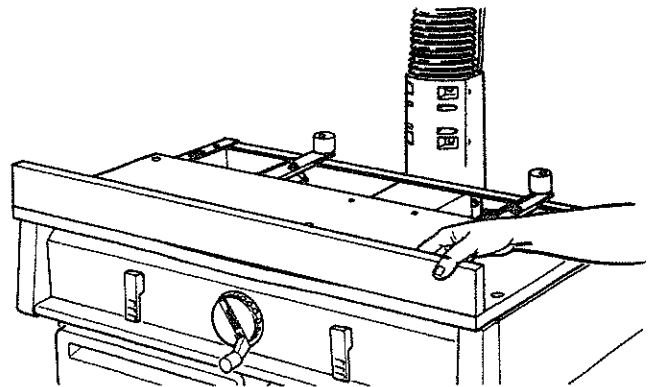

Fig. 101
22. If you see a gap larger than 1/32 inch, tighten the center *mounting screw* and/or the *leveling screws* until the gap is gone. Use a 1/8 inch Hex-L wrench to tighten the *leveling screws*. (Figure 101)